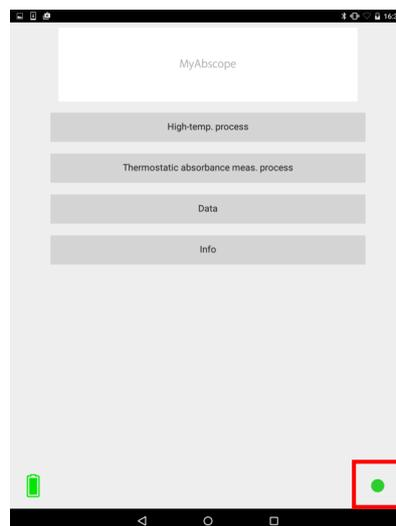

Figure 2-6: Top screen after connected
- (6) Tap the "Connect" button (2) to start connection.
- (7) When the connection is established, a message "Connected." is displayed on the screen, then the top screen after connected is displayed. The pilot lamp beside the Power button on the main unit turns from red to blue, and the gray circle ● on the lower right of the screen changes to a green circle ● (Figure 2-6).